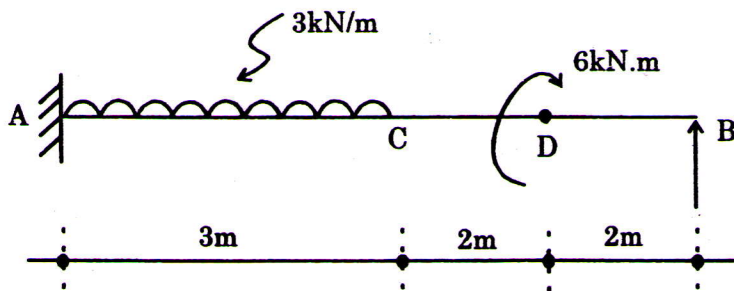

Fig. 2.
- III. (a) Draw the Shear Force and Bending Moment diagrams of the beam shown in Fig 2..